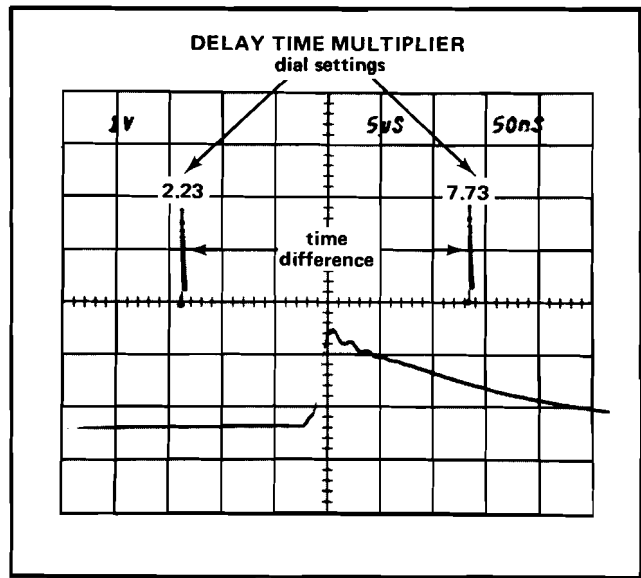

Fig. 2-12. Measuring time difference using delayed sweep.
2. Set the VOLTS/DIV selector to produce a display about three divisions in amplitude (see Fig. 2-12).
5. Set the 7B70 (B) TIME/DIV to a setting 1/100 of the A TIME/DIV sweep rate. This produces an intensified portion about 0.1 division in length.
Example: Assume the first dial setting is 2.23 and the second dial setting is 7.73 with the TIME/DIV set to 5 μ s (see Fig. 2-12).